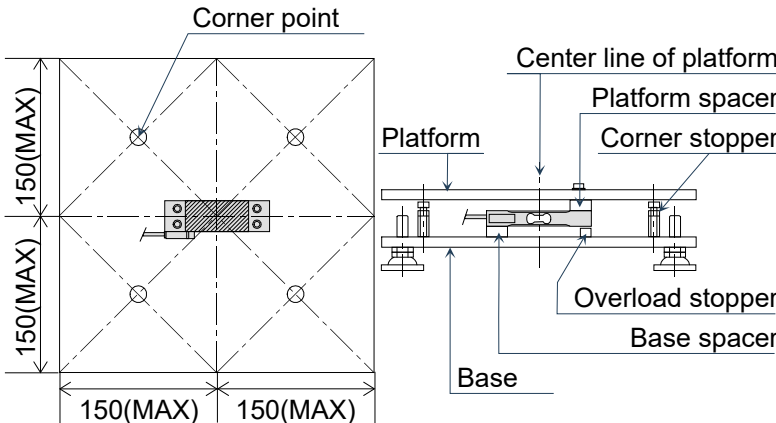

Figure 1
- 7) For the allowable dimensions of the platform, see Figure 1. Also, when designing a platform, refer to the "3.2. Overload precautions".